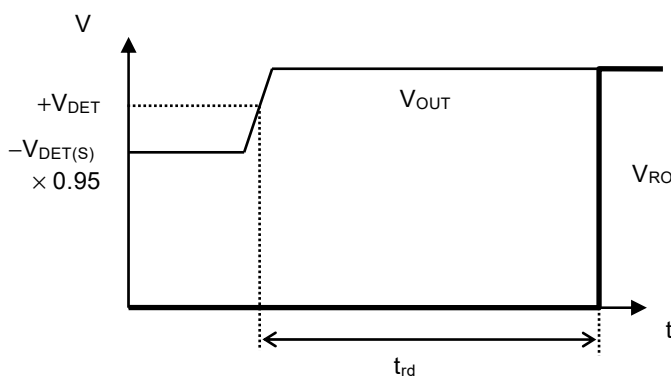

Figure 6 Release Delay Time
*3. The time from when V_{OUT} exceeds +V_{DET} to when the RO pin output inverts (Refer to **Figure 6**). This value changes according to the release delay time and monitoring time adjustment capacitor (C_{DLY}).